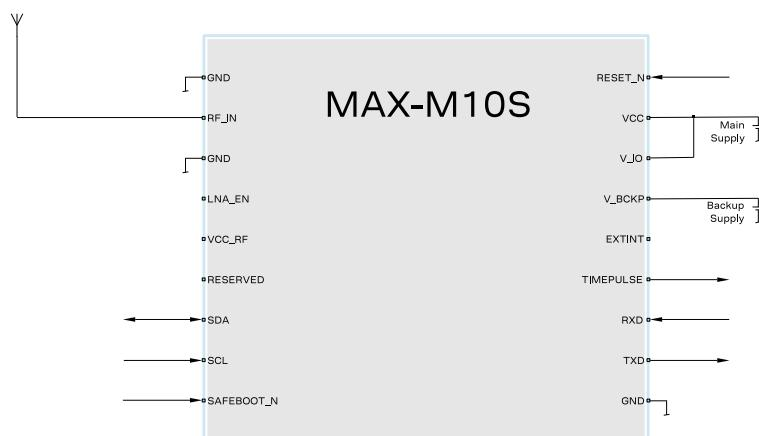

Figure 21: Typical MAX-M10S design
- VCC and V_IO must be connected together to a single supply as shown in Figure 21. Both hardware backup and software standby modes are supported.